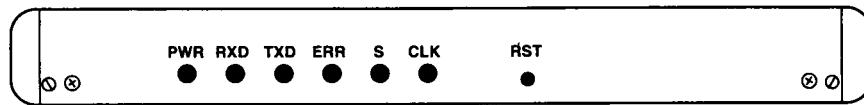

Figure 4-1. Front panel of the IC930A and IC931A.
Two LEDs indicate transmit (TX) and receive (RX) data activity. The PWR LED indicates adequate power. The ERR indicator is a latched indicator that shows that the elastic data buffer has been reset. It does not affect operation when lit and may be turned off by pressing the reset button. The Contra-directional unit (IC931A) has LEDs that show RX and TX clock activity. The Co-directional unit (IC930A) has an LED marked S that shows that the unit is set in slave mode, and an LED marked CLK that lights if the network provides an external clock. **Figure 4-1** shows the location of the LEDs on the front panel.